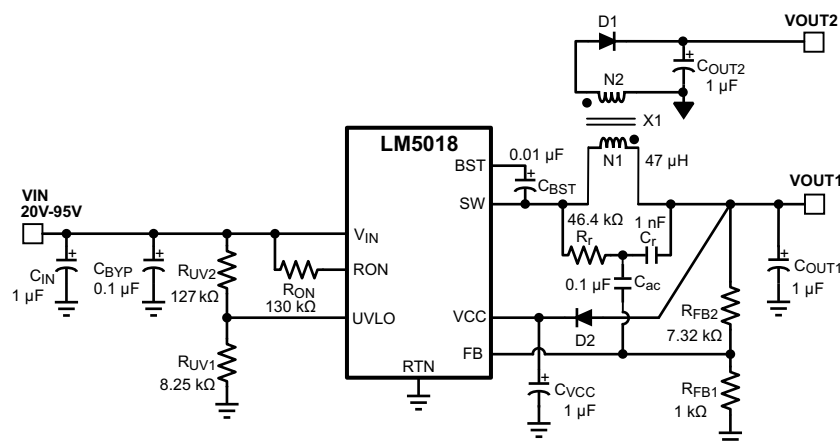

图 8-5. Isolated Fly-Buck™ Converter Using LM5018
An isolated supply using LM5018 is shown in 图 8-5. Inductor (L) in a typical buck circuit is replaced with a coupled inductor (X1). A diode (D1) is used to rectify the voltage on a secondary output. The nominal voltage at the secondary output (V_{OUT2}) is given by 式 20.